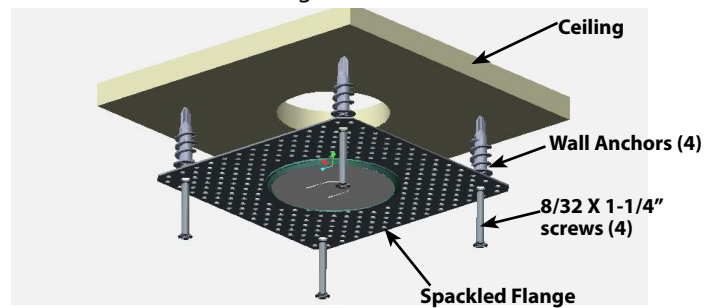

Fig: 4
3. For Remodeler Unit (Fig4): Use 5/16" drill bit and drill ceiling at 4 marked places. Install **Wall Anchors** and secure **Spackled Flange** with 8-32 X 1-1/4" sheet metal screws.